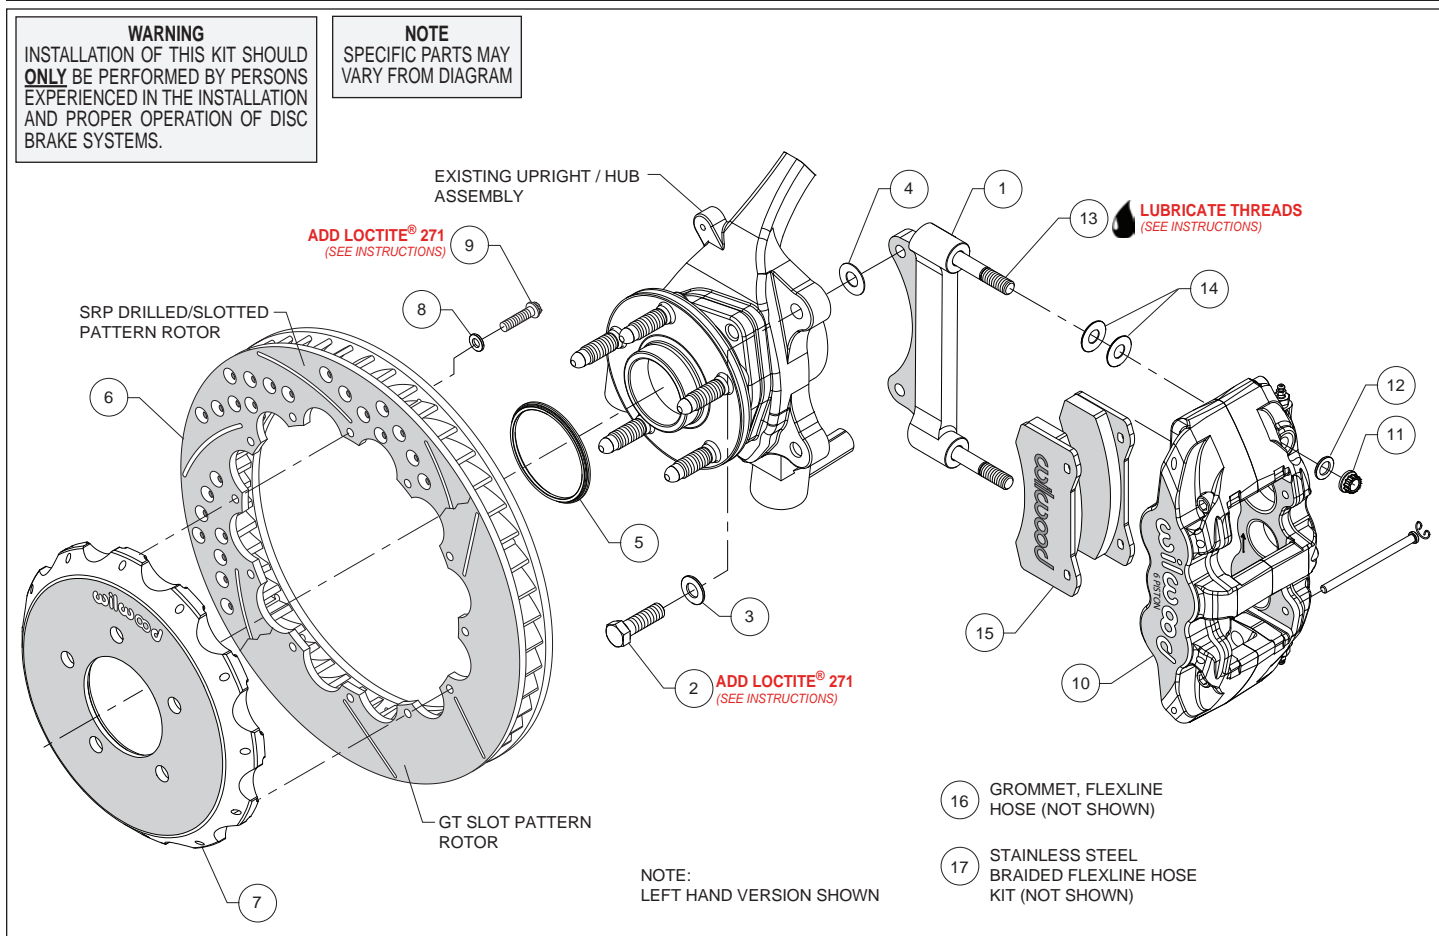
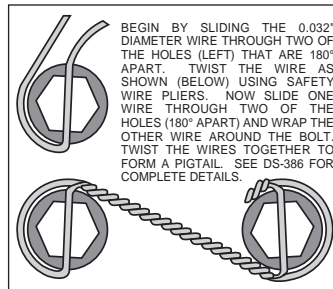

Figure 1. Typical Installation Configuration
Figure 4. Safety Wire Diagram
**Assembly Instructions** (numbers in parenthesis refer to the parts list and Figure 1 on the preceding pages):
- The caliper mount bracket (1) should initially be installed with clean, dry threads on the mounting bolts. Orient the bracket as shown in Figure 1, and Photo 1 and install using washers (3) and bolts (2). Initially place one shim (4) on each bolt between the bracket and upright, Figure 1. Temporarily tighten the mounting bolts. **NOTE:** *The bracket must fit squarely against the mount bosses on the upright.* Inspect for interference from casting irregularities, machining ridges, burrs, etc. Later, after the caliper alignment has been checked, the mount bolts will be secured using red *Loctite*® 271.
- Orient the rotor (6) and the hat (7) as shown in Figure 1 and Photo 2. Attach rotor to hat using bolts (9) and washers (8). Using an alternating sequence, apply red *Loctite*® 271 to the threads, and torque to 155 **in-lbs**. For an added measure of security, the bolts may be safety wired using standard 0.032 inch diameter stainless steel safety wire as shown in Figure 4. Please refer to Wilwood's data sheet DS-386 (available at [www.wilwood.com/Pdf/DataSheets/ds386.pdf](http://www.wilwood.com/Pdf/DataSheets/ds386.pdf)) for complete safety wire installation instructions.
- NOTE:** *This kit contains distinct right and left hand calipers that must be mounted in a specific direction, as described below.* Lubricate the caliper mounting studs (13) with lightweight oil. Initially place two .030" thick shims (14) on each stud as shown in Figure 1 and Photo 5. Mount the caliper (10) onto the bracket (1) using lock nuts (11) and washers (12), Figure 1. Ensure that the caliper is mounted so that the largest pistons are at the rotor exit end of the caliper, in relation to the direction of rotor rotation. Temporarily tighten the lock nuts and view the rotor through the top opening of the caliper. The rotor should be centered in the caliper, Photo 6. If not, adjust by adding or subtracting shims (4) between the bracket and the upright. Always use the same amount of shims on each of the two mounting bolts. Once the caliper alignment is correct, remove the bracket mounting bolts (2) one at a time, apply red *Loctite*® 271 to the threads, and torque to 60 ft-lb.
- Remove the two pad retaining pins from the caliper (10) by carefully popping out the pin retaining clips and sliding out the pins. Insert the brake pads (15) into the caliper from the bottom, Figure 1 and Photo 7. With the friction material facing the rotor, secure the brake pads in place with the pad retaining pins and clips, Photo 8. Reinstall the caliper onto the caliper mounting bracket and temporarily tighten the lock nuts. Check that the top of the brake pad is flush with the outside diameter of the rotor, Photo 9. If not, adjust by adding or subtracting shims (14) between the caliper and the bracket. After the caliper pad height is set, torque the caliper lock nuts (11) to 47 ft-lb.